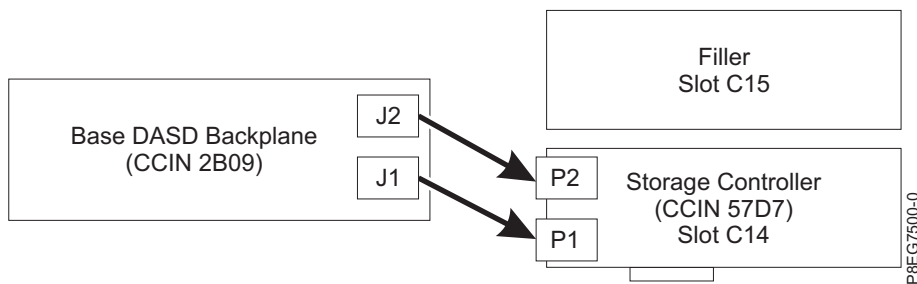

Figure 37. Reconnecting the SAS cable in a base-storage configuration
- If you have one PCIe3 x8 SAS RAID internal adapter (CCIN 57D7) in slot P1-C14 (base-storage feature), one SAS cable connects the lower disk drive backplane connector (J1) to the P1 connector on the adapter. A SAS cable connects the upper disk drive backplane connector (J2) to the P2 connector on the same adapter. See Figure 37.